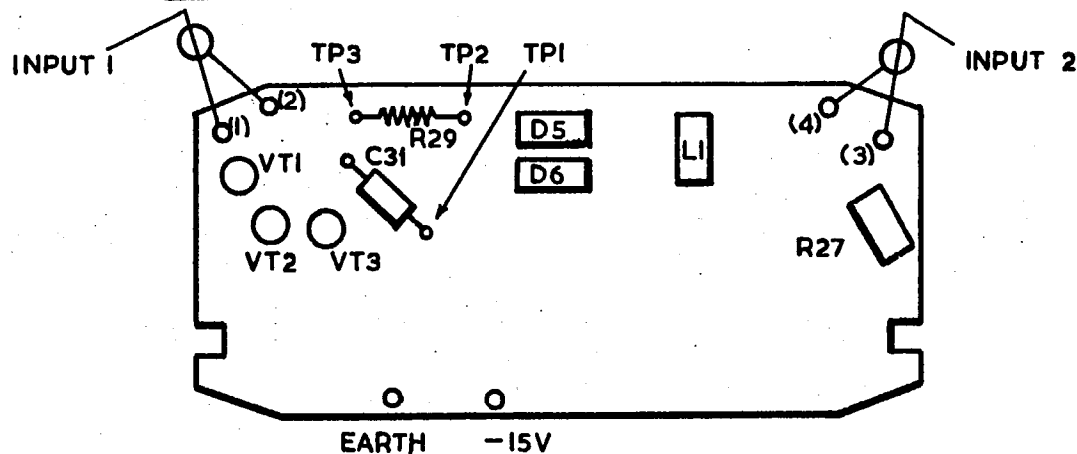

Fig. 16.2 BOARD H, VIEWED FROM COMPONENT SIDE.
(i) Apply a signal at an input level of 0.5V r.m.s. and a frequency of 40 MHz to input 1 pin (1) board H (Fig.16.2). Measure the voltage between the emitter of VT3 and earth; it should be between 0.5V and 1.0V r.m.s.
(iii) Remove the signal from input 1, and apply it to input 2 pin (3) board H (Fig.16.2). Set the level to 100mV r.m.s. at the input, and adjust L1 so that the voltage across R27 varies by not more than 2dB over the frequency range 40 MHz to 65 MHz.